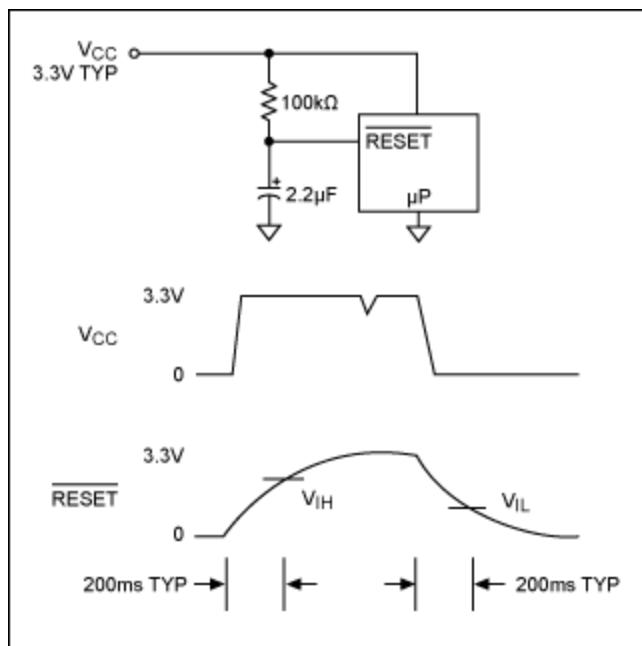

Figure 1. Resistor-capacitor reset delay circuit.
A common approach that is inexpensive but risky is to delay the reset signal using a resistor-capacitor (RC) lowpass filter at the microprocessor's reset-input pin (**Figure 1**). You can select the component values to provide a wide range of reset delays based on a slow, exponential RC rise time. As the capacitor charges from ground to V_{CC} , the voltage crosses a threshold recognized by the microprocessor as a valid (high) input voltage (V_{IH}). This action releases the processor from reset, and it should (ideally) begin normal operation. Unfortunately, this approach has several drawbacks.